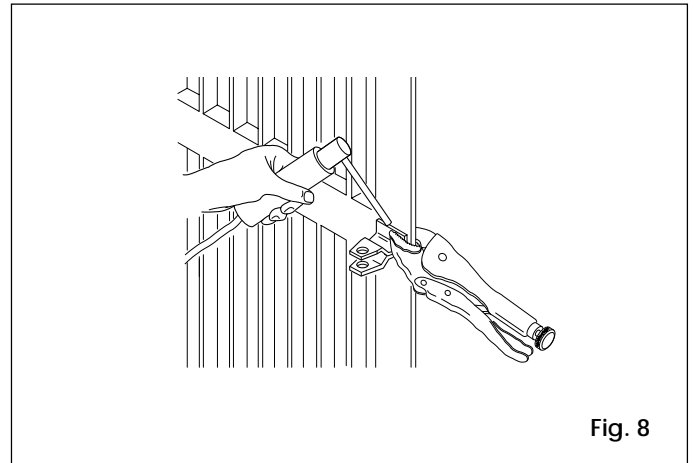

Fig. 8
11) Completely weld the front bracket to the leaf. To weld, detach the operator temporarily from the bracket to prevent any waste material from damaging it (Fig. 8).